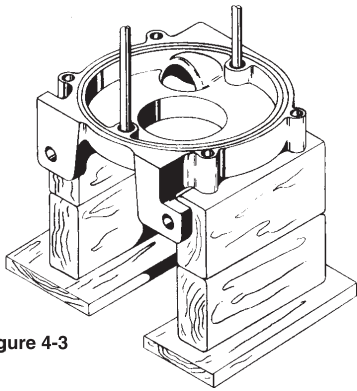

Figure 4-3
- 5. Wood blocks as shown in Figure 4-3
3. It is recommended that the assembly be placed on blocks in a vertical position as shown.(refer to figure 4-3)